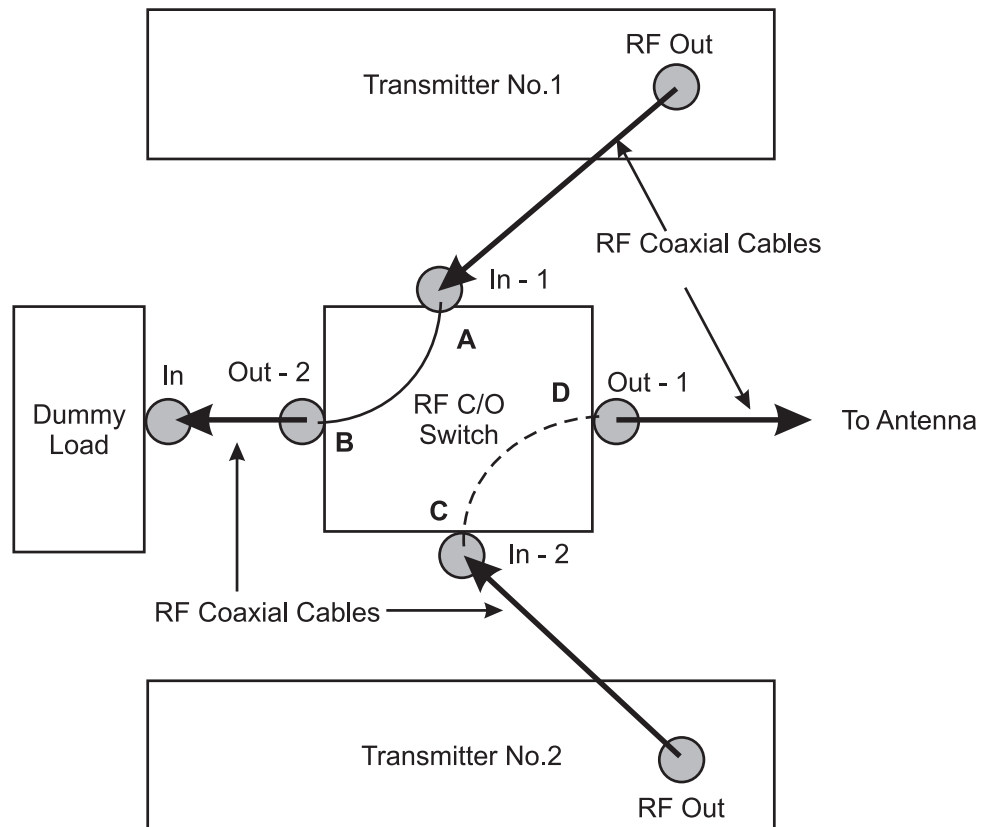

Figure 27.5: Schematic arrangement indicating the RF interconnection of two transmitters using change-over switch.
- Take three small lengths of RF cables connected with N (Male) connectors on both ends (usually supplied along with transmitters) and make connections as illustrated in Figure 27.5.
7. Now connect the cable connector to the output of RF change-over switch (RF Out-1 as indicated in Figure 27.5).